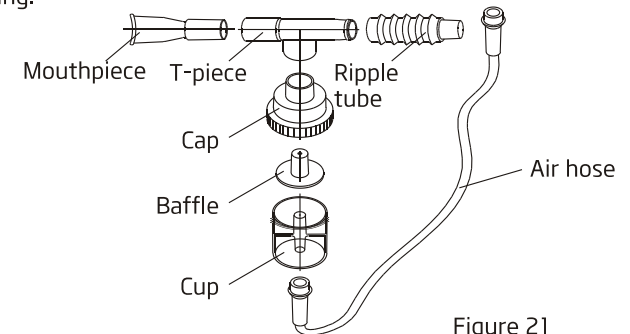

Figure 21
- Pull out the air hose, pull the mouthpiece, downward pull the nebulizing cup's cap, empty remained medicinal liquid in the nebulizing cup, then wash the air hose, mouthpiece, nebulizing cup's cap, nebulizing baffle, nebulizing cup, ripple tube, T-piece, etc , with pure water or immerge them in warm water for about 15 minutes(Figure 21). In order to wash them properly, you may add some vinegar in water.